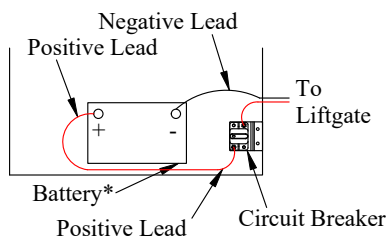

Figure 14: Circuit breaker bracket.
1. **Install** the circuit breaker on the circuit breaker bracket with 1/4" screws and nuts (Figure 14).
- 1. Install** the two (2) mounting angle irons to the bottom of the liftgate (Figure 14).